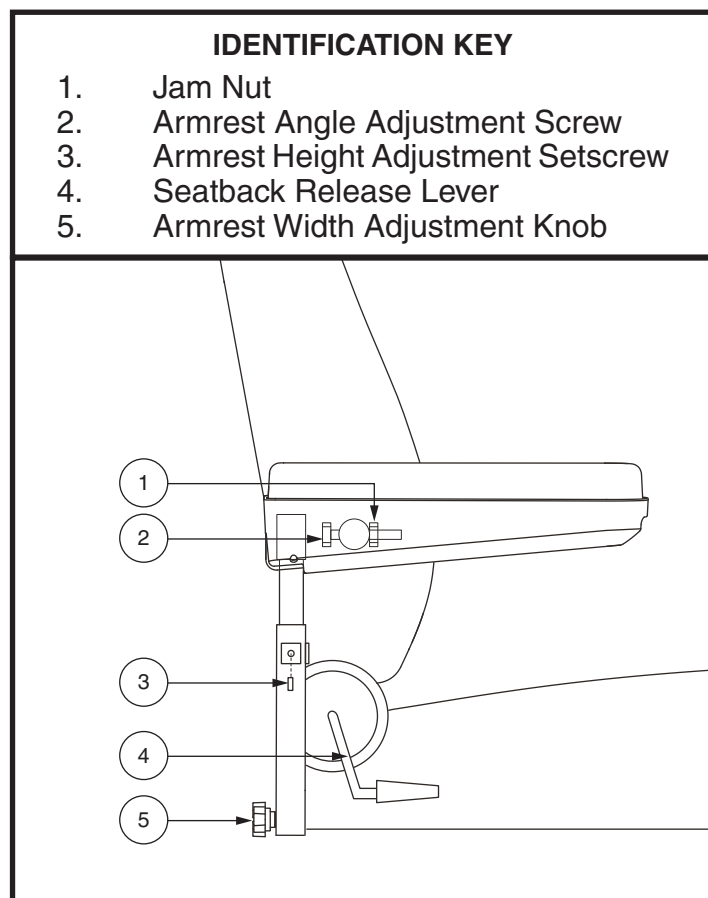

Figure 13. Seatback/Armrest Adjustment
If your scooter is equipped with a manual recline seatback, you can adjust the seatback angle up to 100° using the seatback release lever. **See figure 13.**
1. Locate the armrest width adjustment knob on each side of the armrest receiver bracket. **See figure 13.**
1. Loosen the setscrew on the armrest. **See figure 13.**